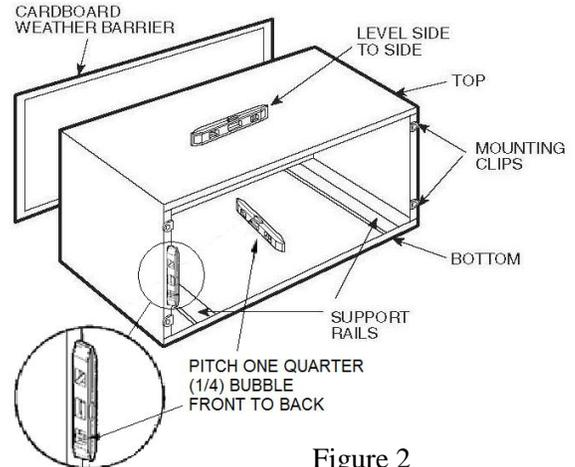

Figure 2
Step 3 Leveling Sleeve — Place level in locations shown in Figure 2. Sleeve must be mounted level side to side and a 1/4 bubble tilt front to back. Use shims as required to insure proper level. This will allow for proper condensate drainage.
Check the sleeve is level side to side and a 1/4 bubble tilt front to back. Adjust if necessary. See Figure 2.